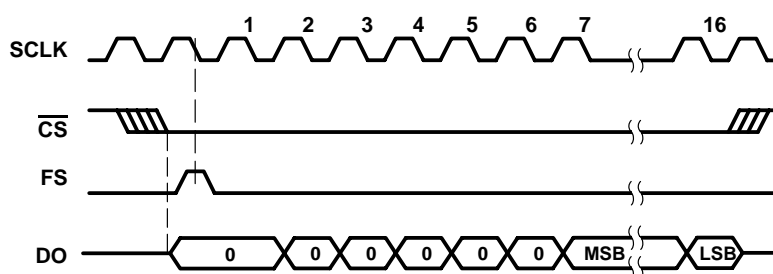
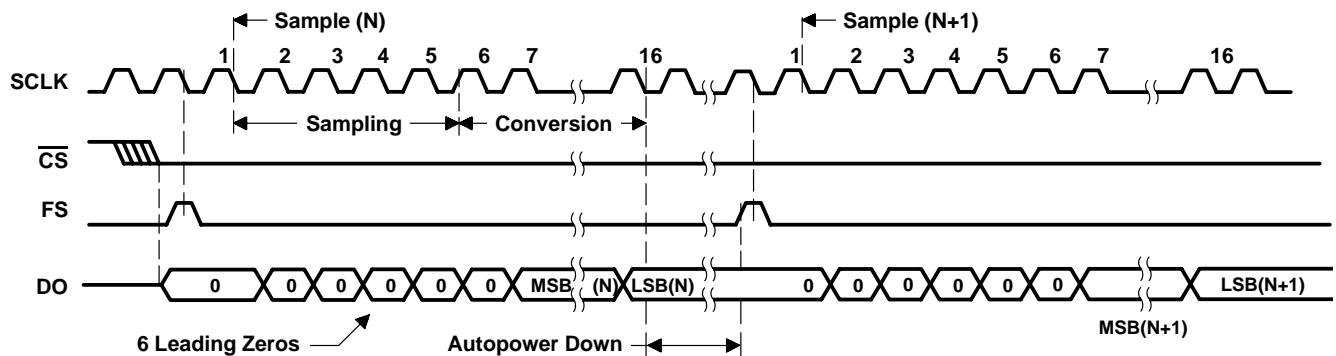
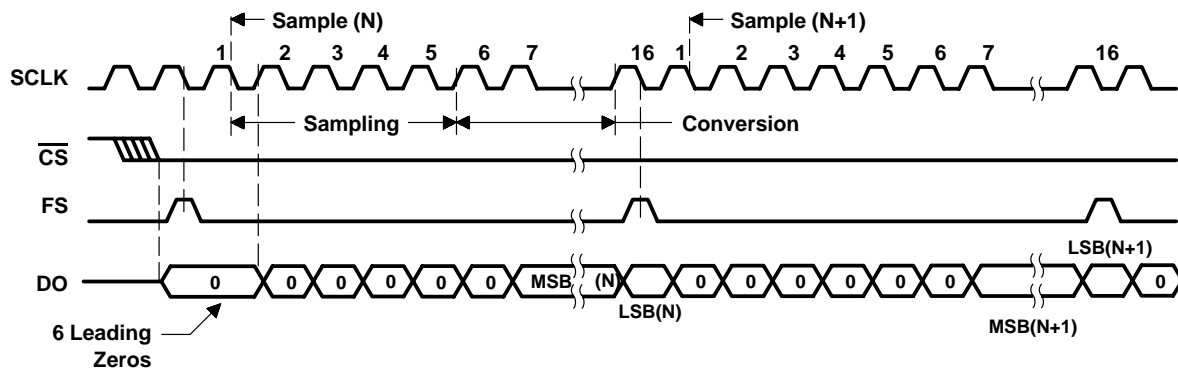

Figure 4. Typical Timing Diagram for DSP Application
Figure 5. DSP Application Timing (Intermittent Conversion)
Figure 6. DSP Application Timing (Continuous Conversion)
The TLV1572 checks FS at the falling edges of SCLK. Once FS is detected high, the sampling of input is started. As soon as FS goes low, the device starts shifting the data out on the DO line. After six null bits, the A/D conversion data becomes available on the SCLK rising edges and is latched by DSP on the falling edges. Figure 4 shows the DSP mode timing diagram.
The TLV1572 goes into auto-powerdown after the LSB is shifted out. The next FS pulls it out of auto-powerdown as shown in Figure 5. If FS comes on the 16th bit, the next conversion cycle starts from the next rising edge of SCLK allowing back to back conversions as shown in Figure 6. An FS high in the middle of a conversion cycle resets the device and starts a new conversion cycle. Therefore variable-bit transfer is supported if FS appears earlier.
For applications where the analog input must be sampled at a precise instant in time, data conversion can be initiated by an external conversion start pulse which is completely asynchronous to the SCLK as shown in Figure 4. When a conversion start pulse is received, the pulse is used as a frame sync (FS) signal to initiate the data conversion and transfer. The corresponding timing diagram is shown in Figure 6.